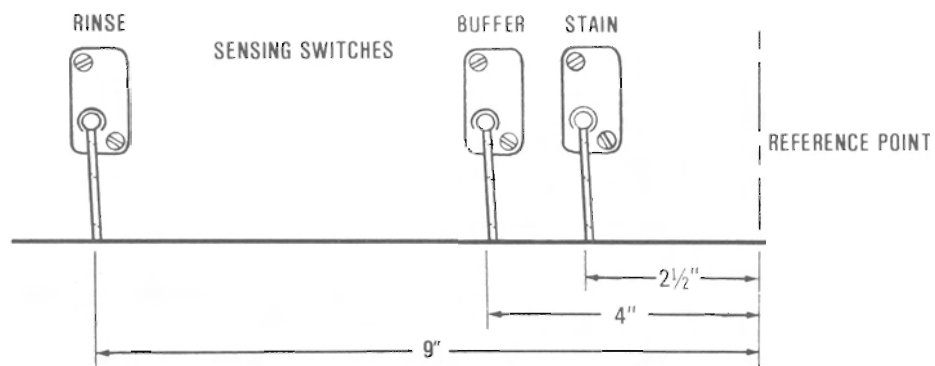

Figure 8-10
2. Measure distance from left edge of platen groove to stain sensing finger. Measurement should be 2 1/2 inches. (See Figure 8-10.)